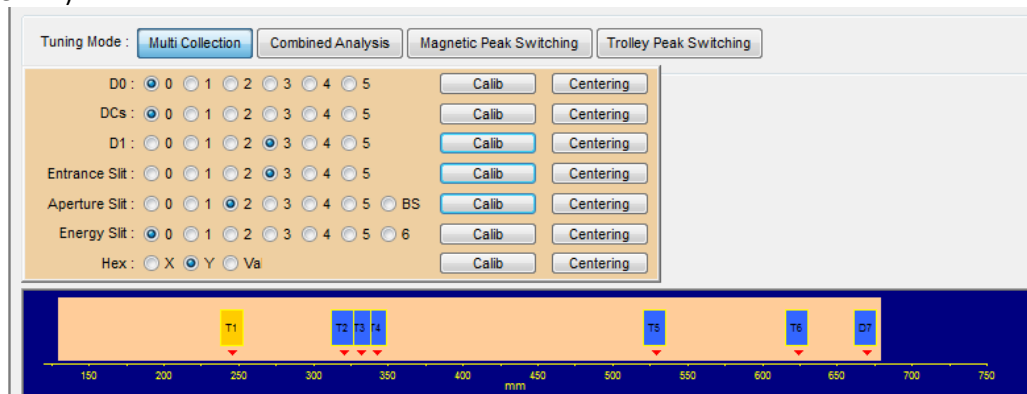

Figure 122: Slit and diaphragm control panel (appears when hovering the mouse over this TUNING section).
- **The slit and diaphragm control panel:** When hovering the mouse over this section, the panel deploys (Figure 122).